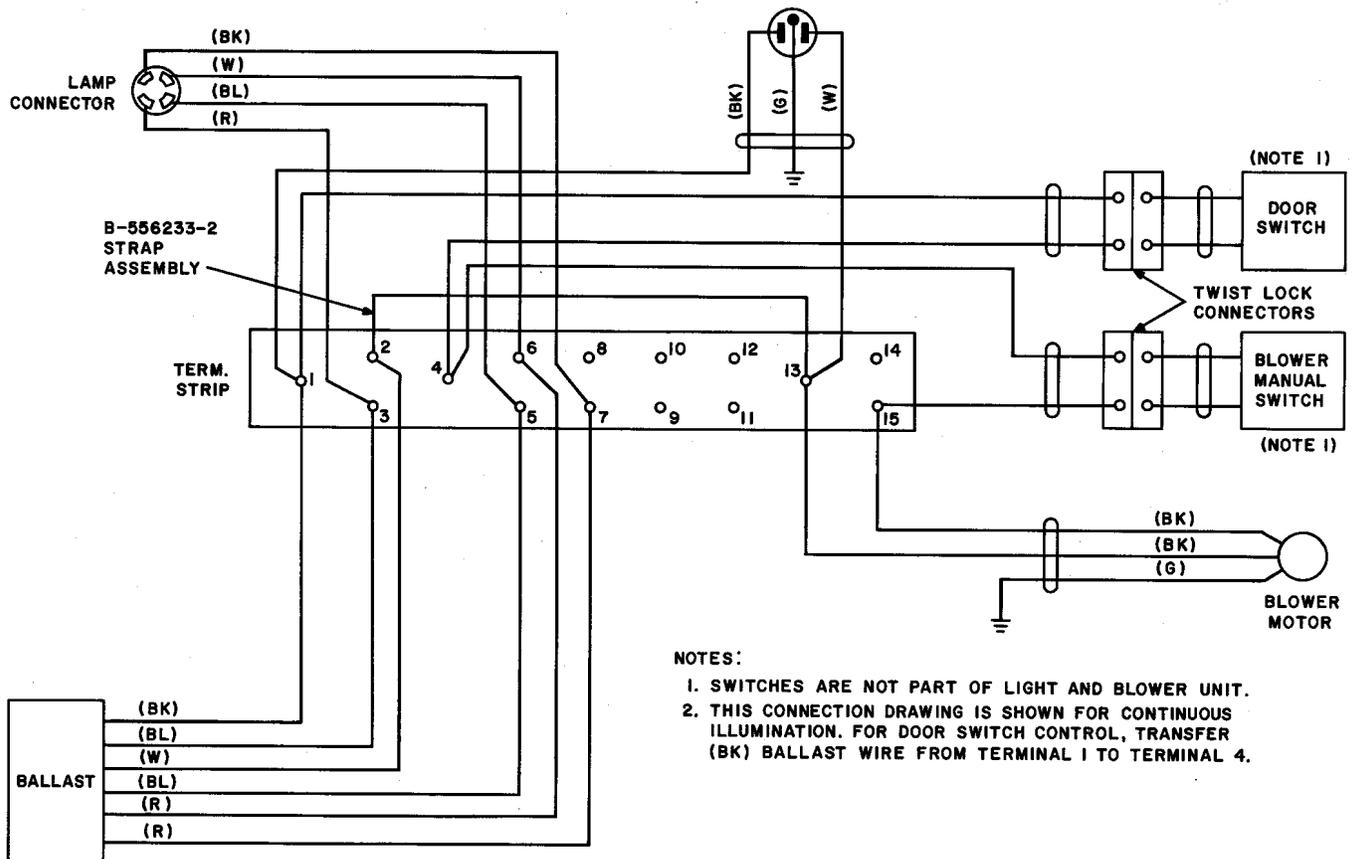

Fig. 2 — Connections for List 1 Unit
(d) See Fig. 2 for List 1 unit connections.
4.02 Refer to Fig. 2, 3, 5, 7, and 8 for various connections if electrical failures should occur.